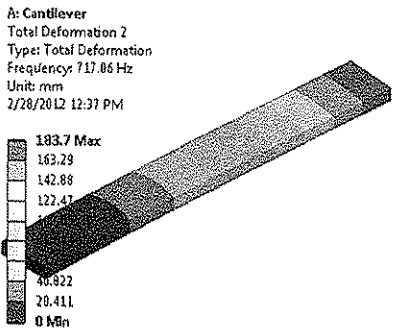

Figure 10-22 Second mode shape
7. Select **Total Deformation 2** under the **Solution** node; the second mode shape is displayed in the **Graphics** screen, as shown in Figure 10-22.